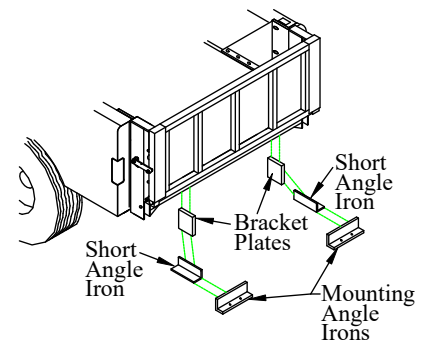

Figure 19: Lower bracket support.
2. **Bolt** the bracket plates to the truck frame (Figure 19).